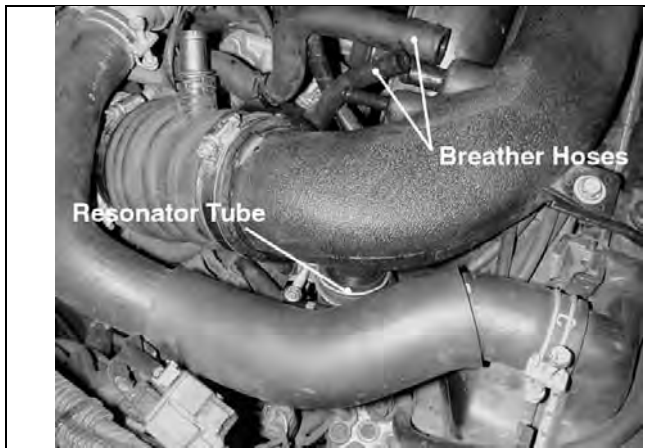

Fig. 2
- d) Disconnect the resonator tube from the underside of the intake tube. This tube is used for noise suppression in the stock intake system and will not be used with the **AEM** Short Ram Air Intake System. **(Fig. 2)**
- e) Disconnect the two breather hoses from the intake tube. Do not lose the hose clamps. **(Fig. 2)**